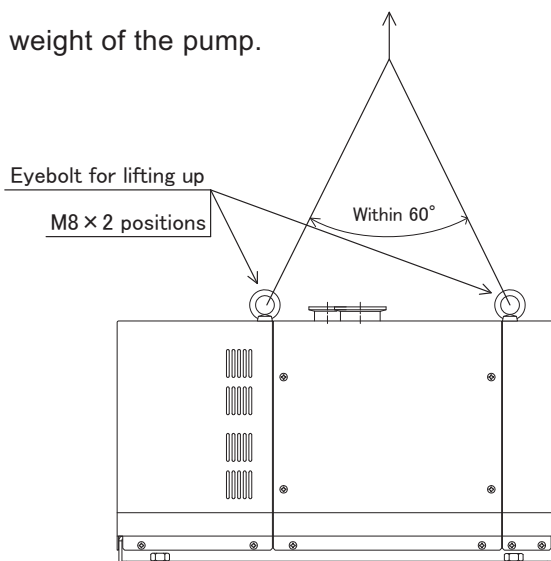

Fig. 4.1 How to Lifting up the Pump
- Figure 4.1 shows that the angle of wire when lifting up the pump, should be equal apportion.